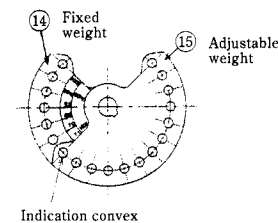

Fig. 6
As shown in Fig. 6, the scale plate ⑬ has 10 graduations for 50 Hz power supplies and 6 graduations for 60 Hz power supplies, according to the vibrating can be adjusted. Select the graduation according to the power supply frequency.
Fig. 6 shows the scales.